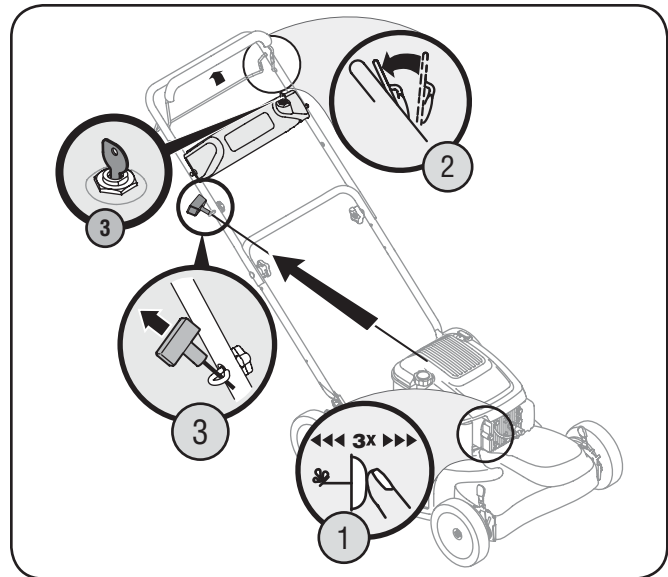

Figure 5-1
1. Push primer three times (if equipped). Wait about two seconds between each push. See Figure 5-1. Do not prime to restart a warm engine.
3. **Recoil Start:** Holding these two handles together firmly, grasp recoil starter handle and pull rope out with a rapid, continuous, full arm stroke. See Figure 5-1. Keeping a firm grip on the starter handle, let the rope rewind slowly. Repeat until engine cranks. Let the rope rewind each time slowly.